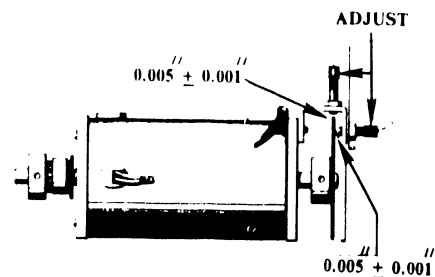

FIGURE 6-3 TIMING DISK & SENSORS
- 2) The distance between the edge/face of the timing disk and the pick ups should be consistent along the circumference of the disk with a gap of $0.005" \pm 0.001"$ ($0.0127 \text{ cm} \pm 2.5 \text{ mm}$) (See Figure 6-3). If out of adjustment, refer to paragraph 6.3.17 for adjustment procedure.